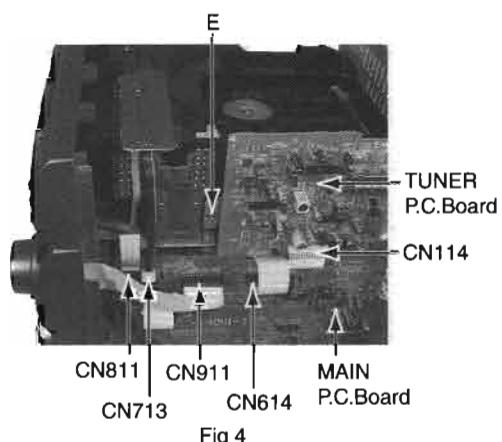

Fig 4
- 3.Remove screw E on the right side. (See Fig.4)
- 4.Three flat wires are removed from CD changer mechanism assembly. (CN713.CN811.CN614) (See Fig.4)
- 6.Disconnect the connector CN114 of the TUNER P.C.Board.(See Fig.4)